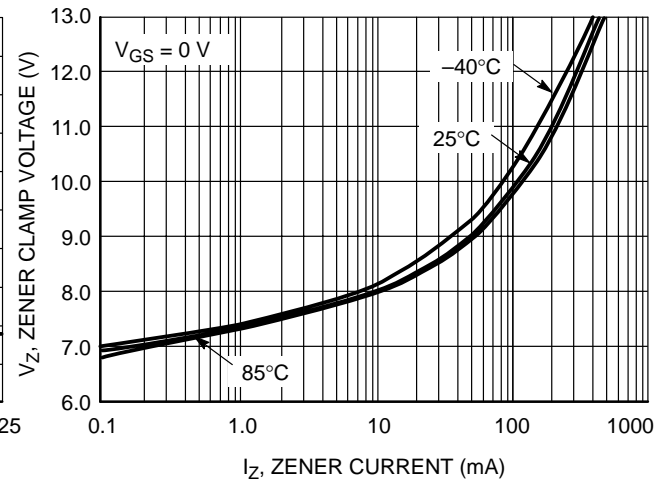

Figure 7. Zener Clamp Voltage vs. Zener Current
5. Using the max output current calculated in step 1, check Figure 7 to insure that the range of zener clamp voltage over temperature will satisfy all system & EMI requirements.